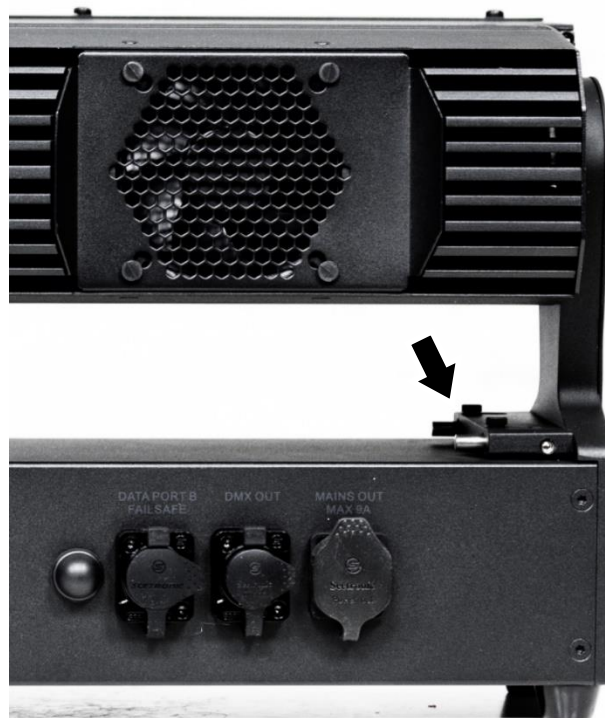

Figure 4. End-to-end alignment pins
1. See Figure 4. The alignment pin release buttons are located on the base of the fixture.